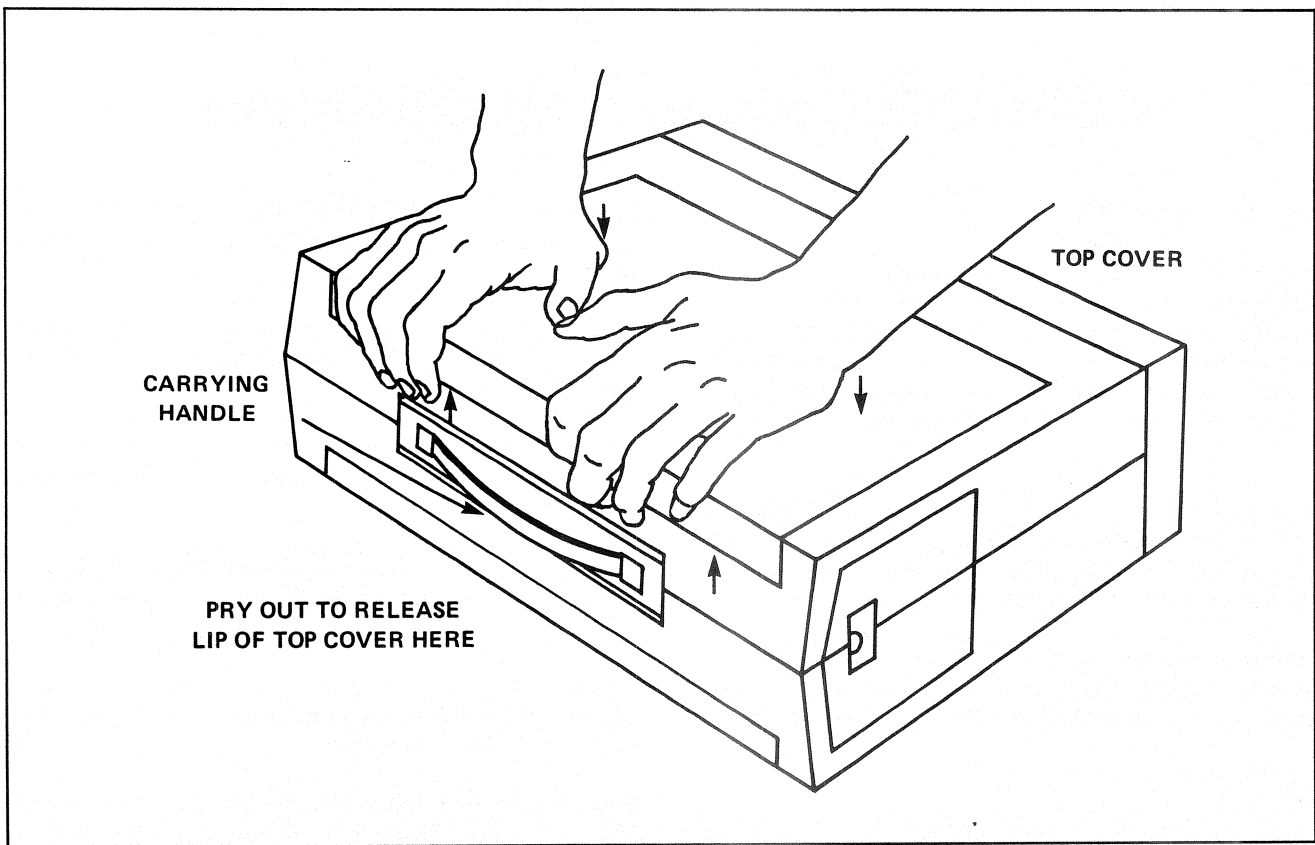

Figure D-2. COMPAQ Lid Removal
**Step 2** – Stand in front of the computer, and position your arms and hands over the rear top edge, as shown in Figure D-2.